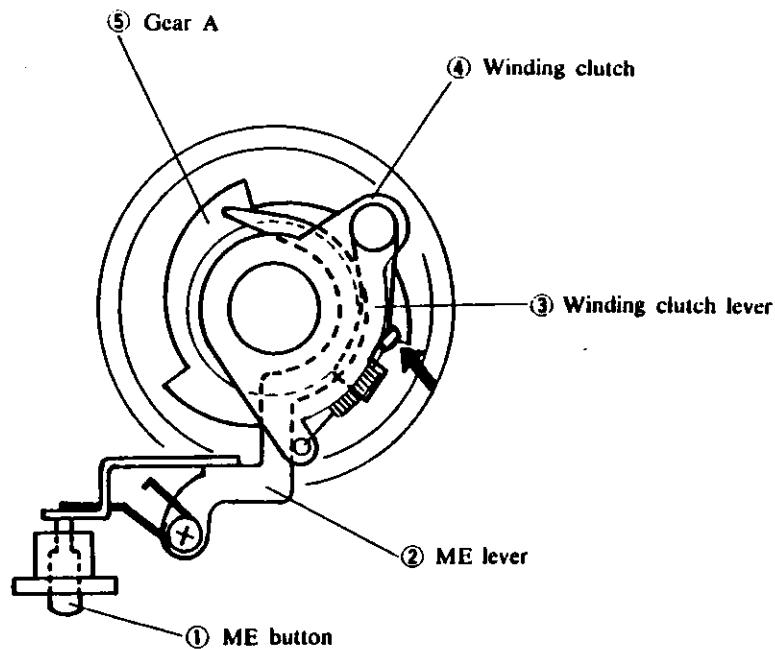

Fig. 10
2. Multi exposure mechanism (Fig. 10 and 11)
- 1) Fig. 10 shows the condition when ME button has not been depressed.